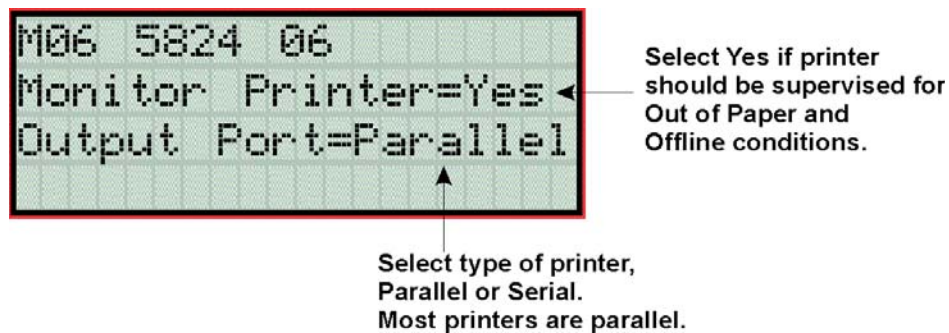

Figure 4-19 Selecting Printer and Output Port Options
5. Press **ENTER** **ACK** **ENTER** **ACK** to bypass the next two screens. A screen similar to the one shown in Figure 4-19 will display.